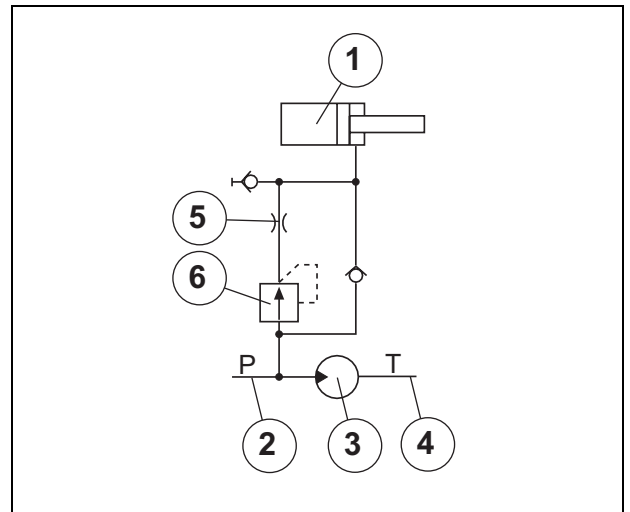

Fig. 13 Pressure line feed out system
When the saw motor feed line(2) is pressurised, a reduced pressure / flow will be created in the pressure regulating valve(6) and restrictor(5). See Fig. 13.